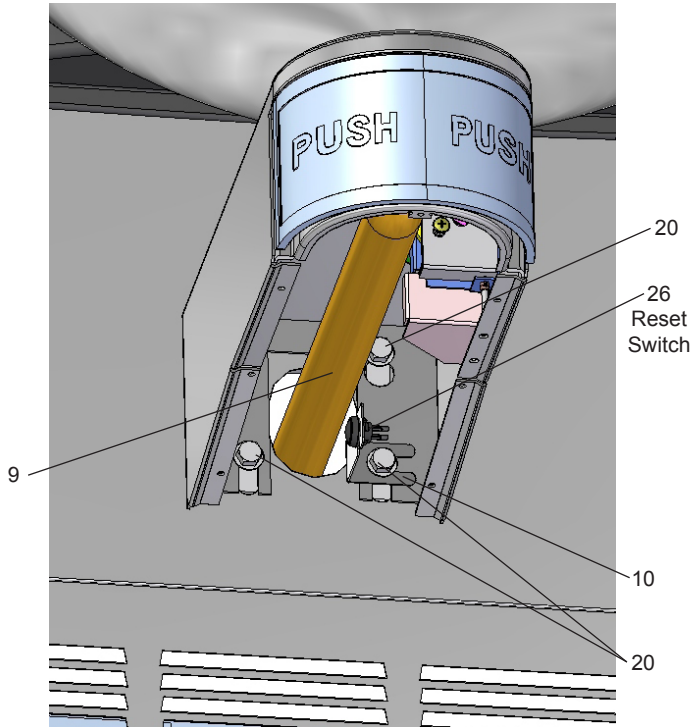

Figure 4 - Fountain Installation
7. **Install fountain** with (4) 5/16-18 HHMS (provided) (Fig 4). Connect the 1/4" water line from the fountain to the remaining opening on the tee at the remote chiller (cut line to fit as needed), (Test fit refrigerated panel to make sure there is a tight joint between it & the main panel before fully tightening mounting screws.
8. **Install reset switch** and mating bracket on lower fountain (lower right bolt) for bottle filler (Fig 4). Connect the switch wire to the extension wire on the back of the bottle filler. Wrap up the excess cord.